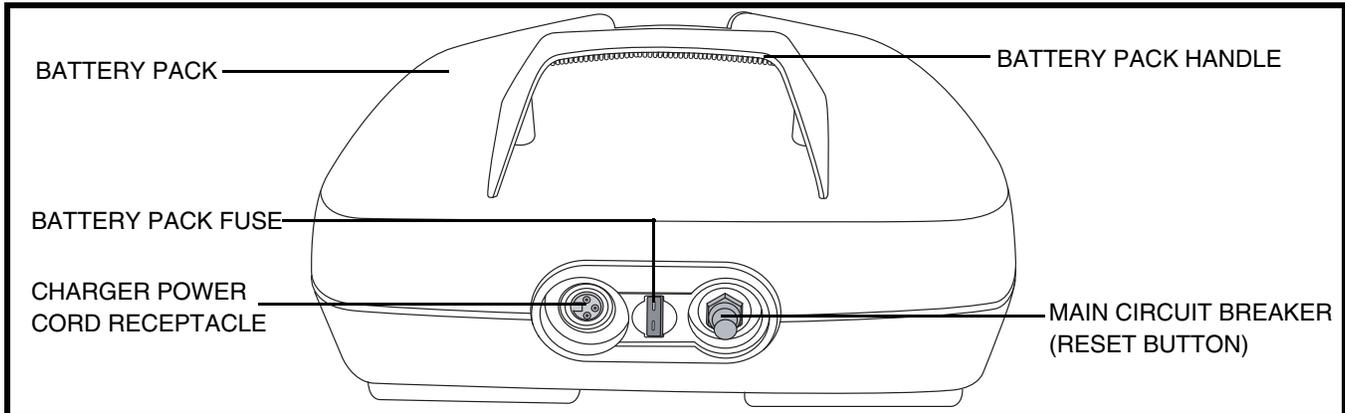

Figure 7. Battery Pack
Your Travel Scooter is equipped with an innovative, easy to remove battery pack. A handle on the top of the battery pack makes it easy to lift the pack off of the Travel Scooter with one hand. The battery pack contains two batteries, the charger power cord receptacle, the main circuit breaker (reset button), and the battery pack fuse. See **figure 7**.
- Ensure that the fuse on the battery pack is in working condition. **See figure 7.**